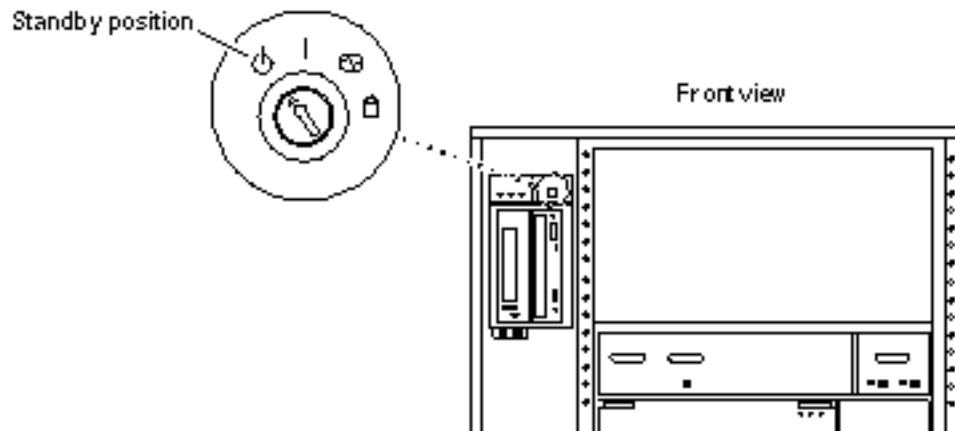

Figure 2-1 Key Switch Standby Position
4. **(the Standby position) (Figure 2-1).**